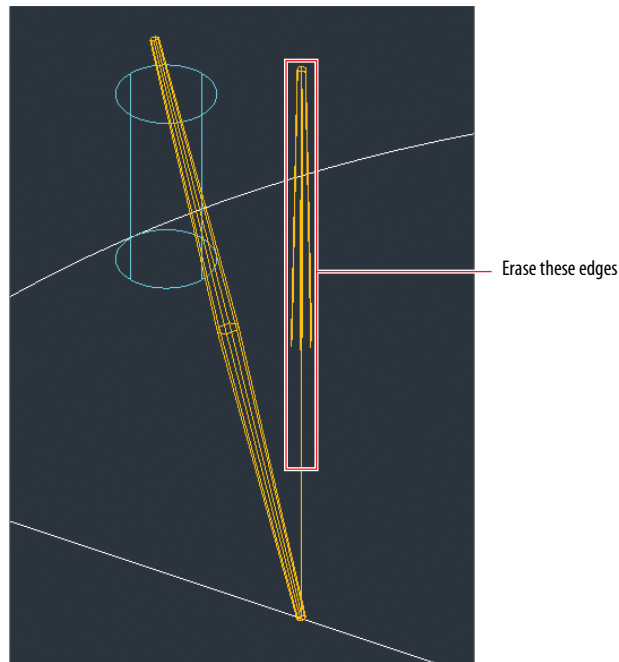

FIGURE 17.24 Erasing the edges extracted earlier
9. Zoom out, and select the Erase tool in the Modify panel. Select the edges you extracted from the mast in the previous section and the vertical mast line (see Figure 17.24), and press Enter.